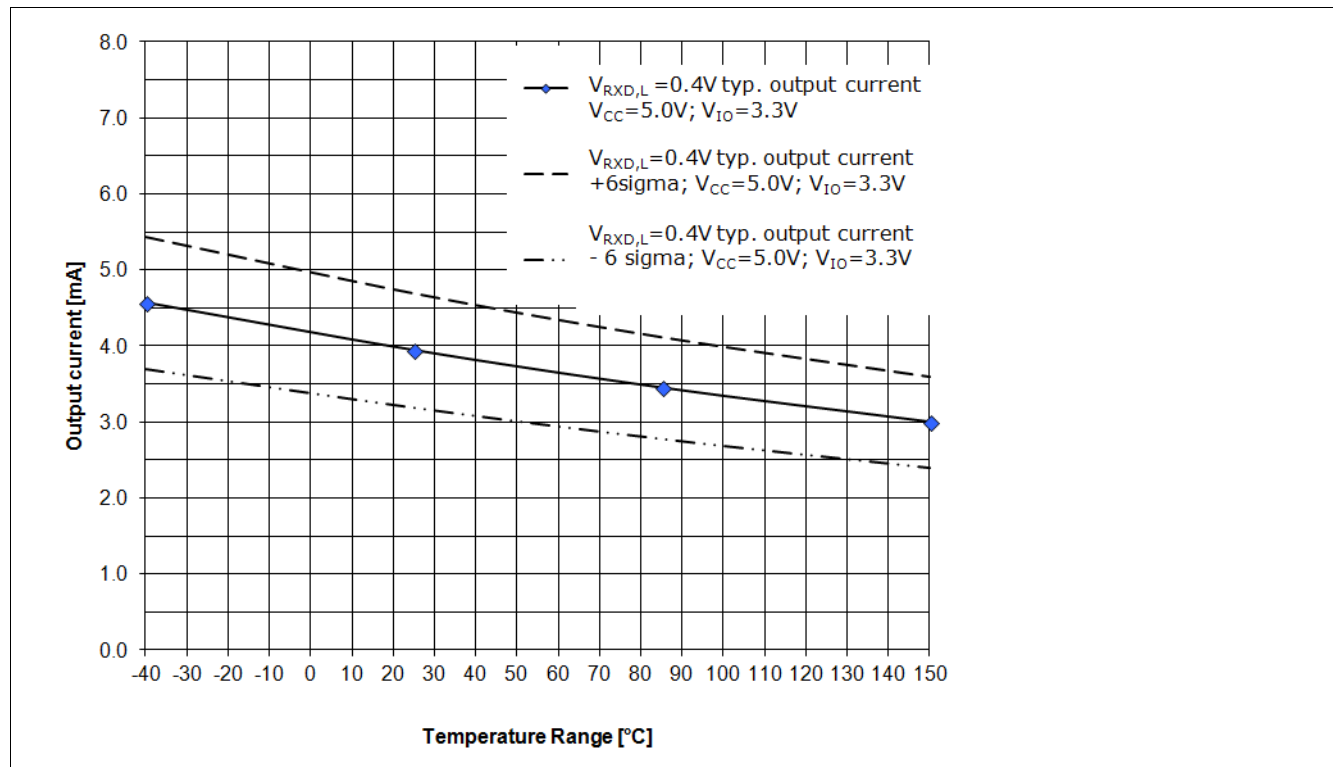

Figure 14 RxD Output driver capability for a logical "Low" signal $V_{RxD,H} = 0.4V$, $V_{CC} = 5.0V$, $V_{IO} = 3.3V$ ¹⁾
The diagram in Figure 13 and the diagram in Figure 14 show the current capability of the RxD output pin depended on the chip temperature T_J . Figure 13 shows the current capability of the RxD output pin at a V_{IO} power supply of 5.0 V and Figure 14 shows the current capability of the RxD output pin at a V_{IO} power supply of 3.3 V.
- The curve “VRxD,H = 0.4 V; **typ. output current**; VCC = 5.0 V; VIO = 3.3 V;” displays the typical output current at the RxD output pin of the TLE8250GVIO (see Figure 14).
- The curve “VRxD,H = 0.4 V; **typ. output current + 6 sigma**; VCC = 5.0 V; VIO = 3.3 V;” displays the expected maximum value of the output current at the RxD output pin (see Figure 14).
- The curve “VRxD,H = 0.4 V; **typ. output current - 6 sigma**; VCC = 5.0 V; VIO = 3.3 V;” displays the expected minimum value of the output current at the RxD output pin (see Figure 14).